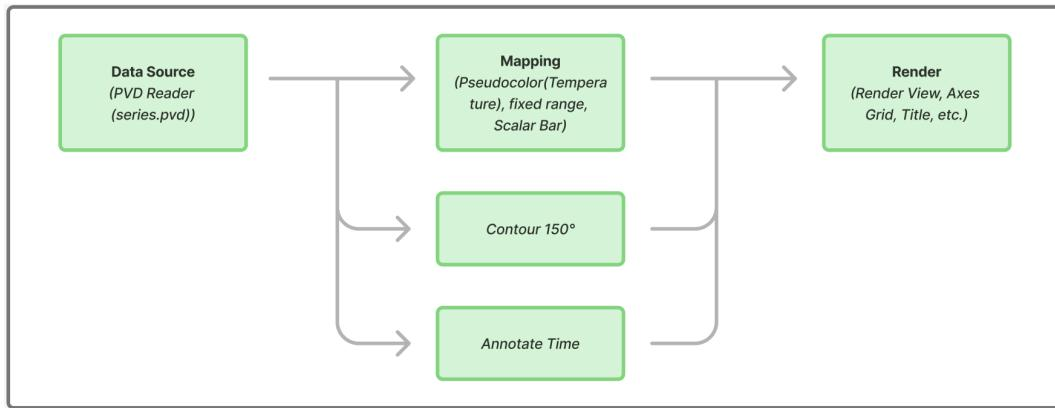

Figure 2: Pipeline of the data visualization process.
This implementation (almost completely) mirrors the Jacobi pseudocode provided by the University of Amsterdam² and is depicted in Figure 2. The steps are: (1) initialize the lattice and set Dirichlet values on the outer edges as well as on the central hot-square mask; (2) iterate Jacobi sweeps using west/east/north/south neighbours while tracking δ each sweep; (3) output a snapshot at the chosen cadence (for ParaView: .vti plus a .pvd time collection); and (4)
2. For the full pipeline in ParaView, the solver writes VTK-XML ImageData files (.vti) together with a .pvda collection so the sequence loads as a single time-aware source. In ParaView, the pipeline follows the Haber&McNabb model [3], also depicted in Figure 2: (1) the data source obtained through the code (flowchart described in Figure 2), (2) the mapping, as well as the additions of the contour and the annotating of time, and finally (3) rendering it all within Paraview.